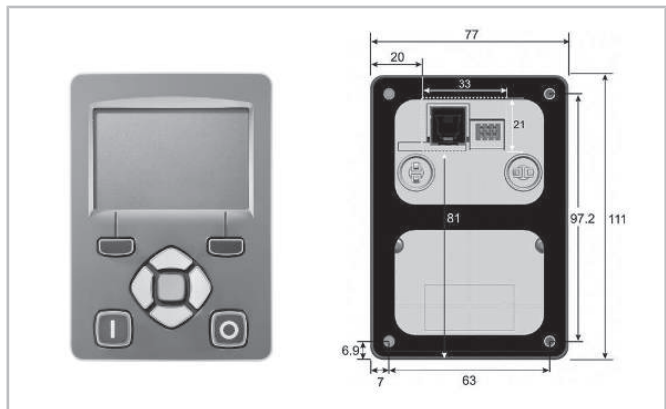

Fig. 27: Front and rear view of the control panel with fixing holes and recess on the back (for external mounting to the switch cabinet)
Mounting (see figure 27, page 38):
- Take the openings in the switch cabinet door for the connections on the back of the control panel into account (see figure 27, page 38)!